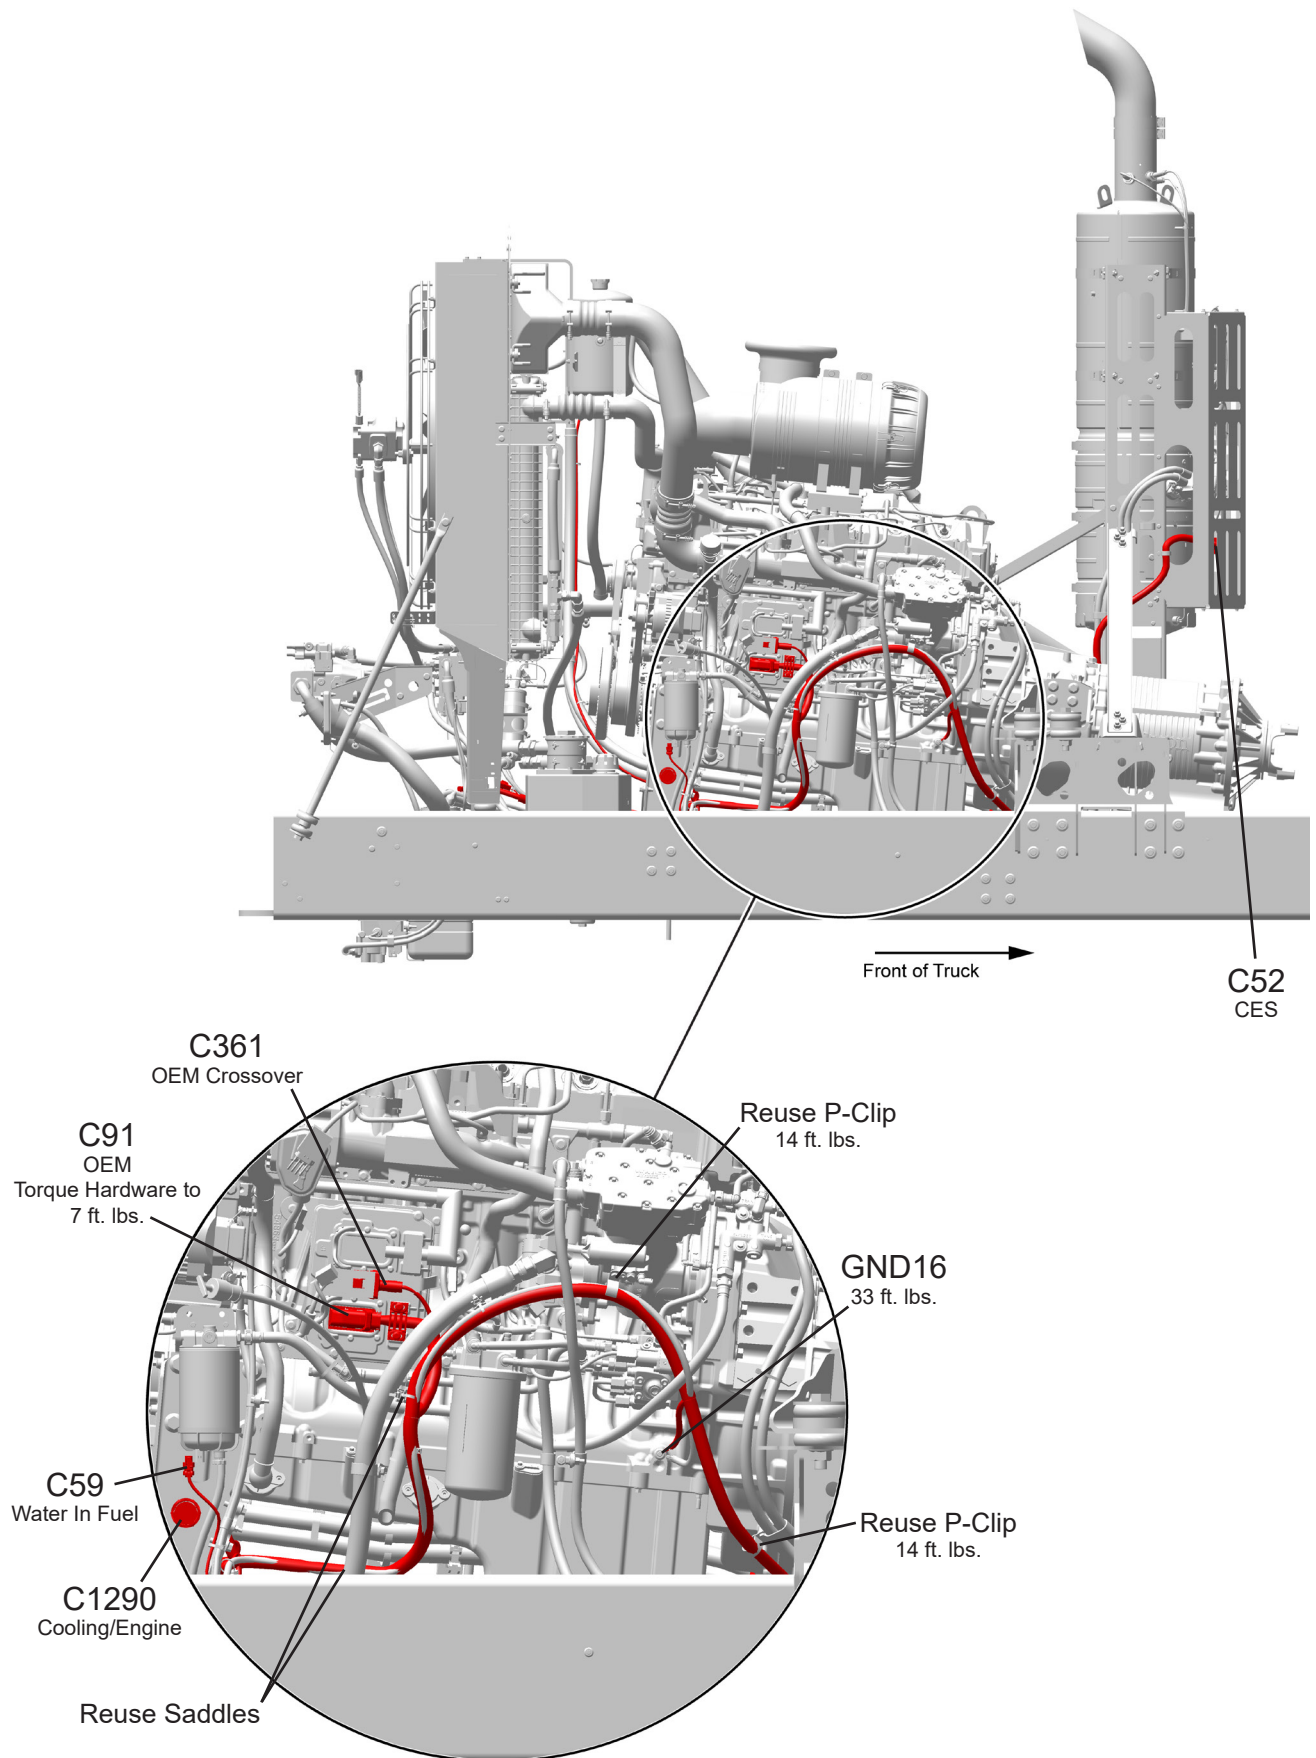

Figure 1
3. Connect the following connectors to right side of vehicle engine, see Figure 1.